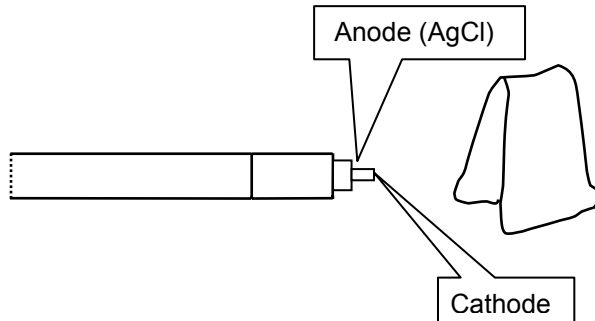

Figure 5
4. Carefully dab off the silver/silver chloride anode with a paper towel (see figure 5).